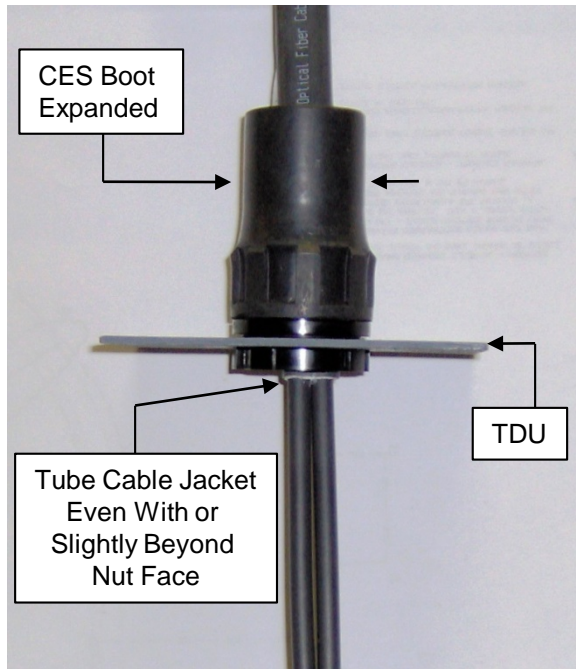

Figure 4
7.8 Insert tubes / tube cable through CES and make final adjustments to tube cable length and position inside TDU. Position tube cable jacket even with or slightly beyond the nut face. **See Fig. 4.**